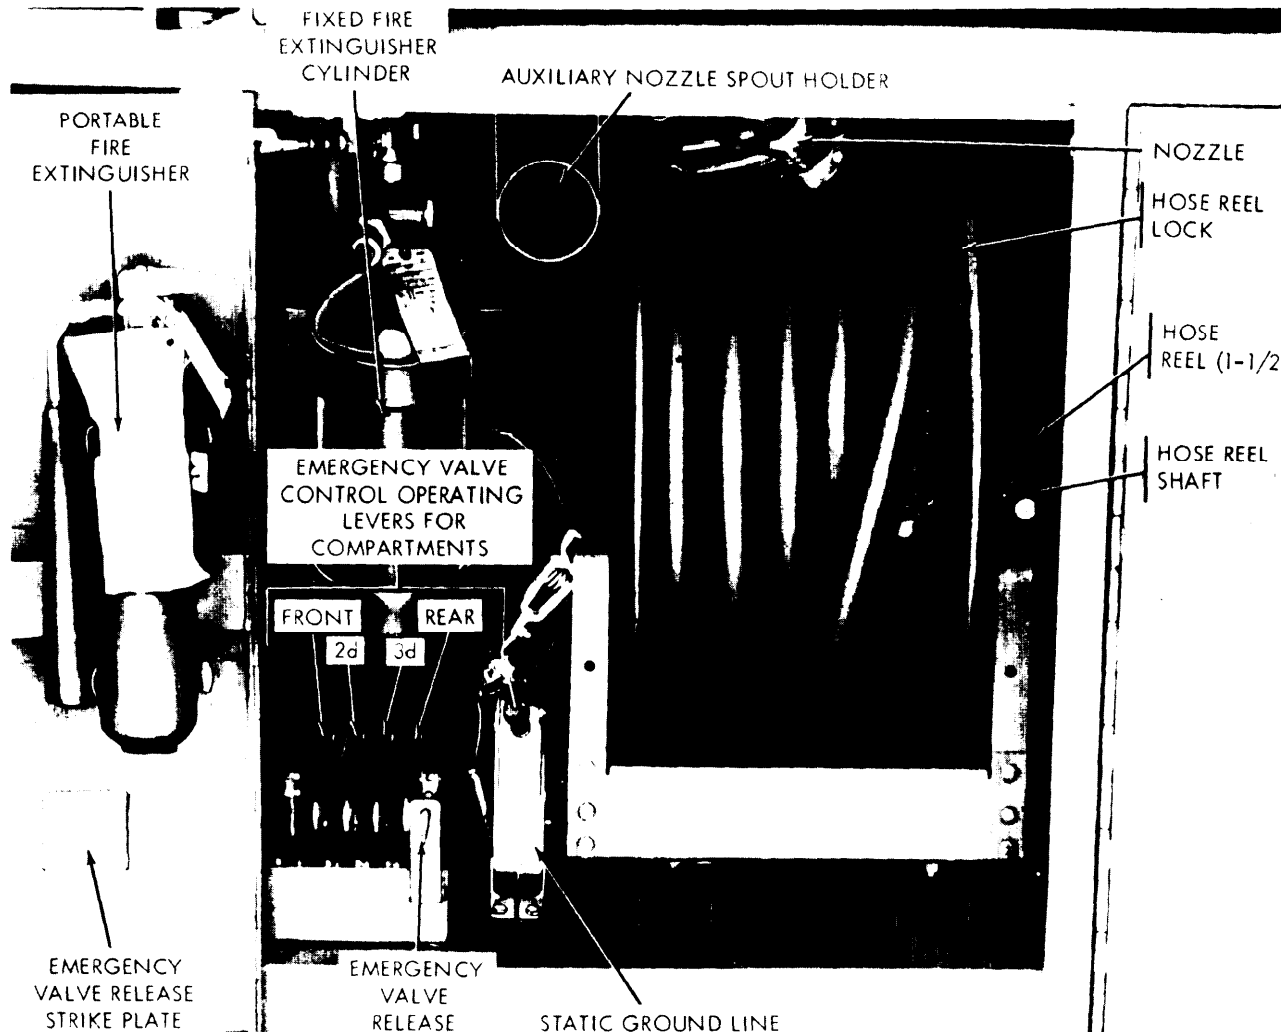

Figure 2-4. Forward roadside cabinet-M131A4C.
a. The control head locking pin and lever are located on the control head of the fixed fire extinguishing system cylinder (fig 2-4) in the roadside cabinet. In the event of an emergency the system is operated at the control head by pulling the locking pin out of the control head and rotating the control lever upward 90 degrees.
*b. Static Reel* (fig 2-4, 2-6 and 2-7). The static ground line is attached to the unit being serviced and to a ground plug or clamp.
*e. Emergency Dump Valve Operating Levers* (fig 2-4, 2-6 and 2-7). There is one operating lever for each emergency dump valve.